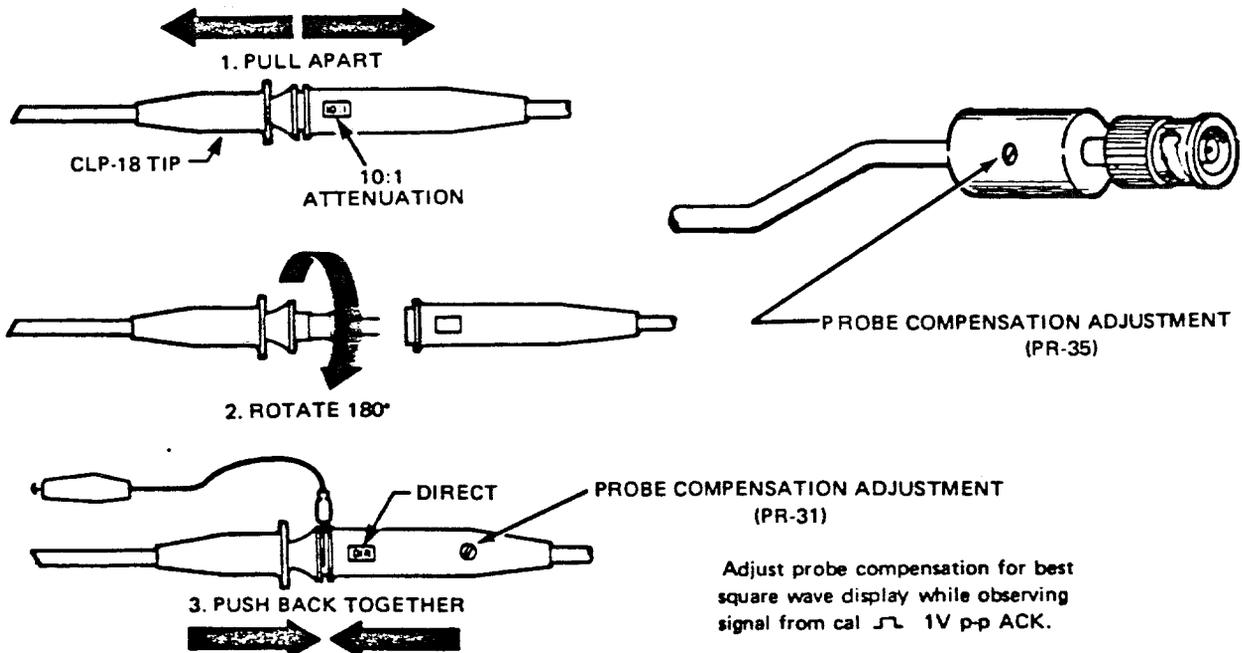

Fig. 3. Probe details.
- 30. **Probe (See Fig. 3).** The B & K-Precision Model PR-31 combination 10 : 1/Direct probes have been designed for use with this oscilloscope. However, any probe designed for use with an oscilloscope having a nominal input impedance of 1 megohm shunted by 35 pF and capable of operation up to 10 MHz, can be used.